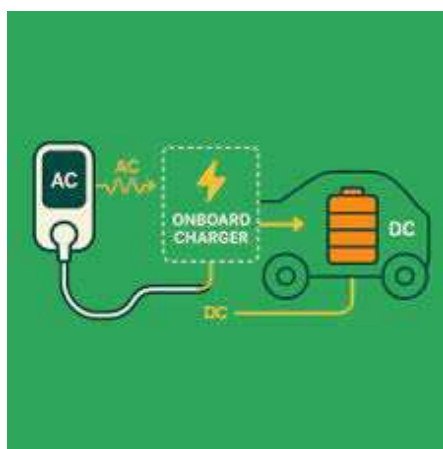

Fig. 3.15: Onboard Charger
12. Onboard Charger: Located inside the EV, it converts AC (Alternating Current) from the charger into DC (Direct Current) that the battery can store. In fast chargers, this conversion is done externally (off-board), as shown in Fig. 3.15.